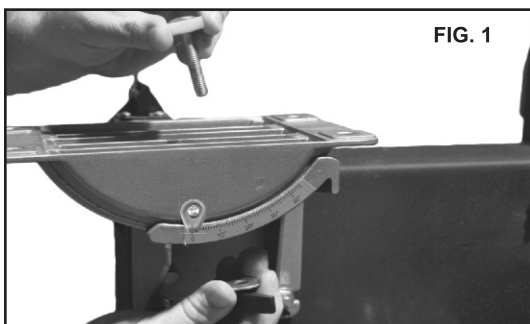

FIG. 1
A. Assemble the upper table trunnion to the lower table trunnion with Carriage Bolt, Glide Piece, Washer and Wing Nut (See FIG. 1).